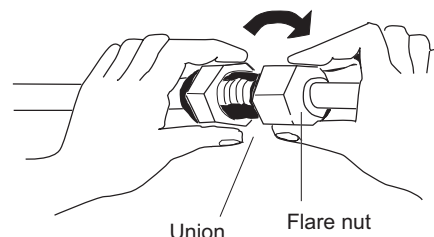

Fig. 1-30
- (3) For proper connection, align the union tube and flare tube straight with each other, then screw on the flare nut lightly at first to obtain a smooth match. (Fig. 1-30)